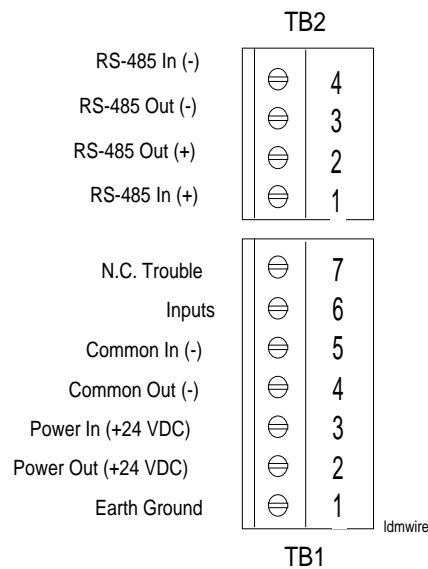
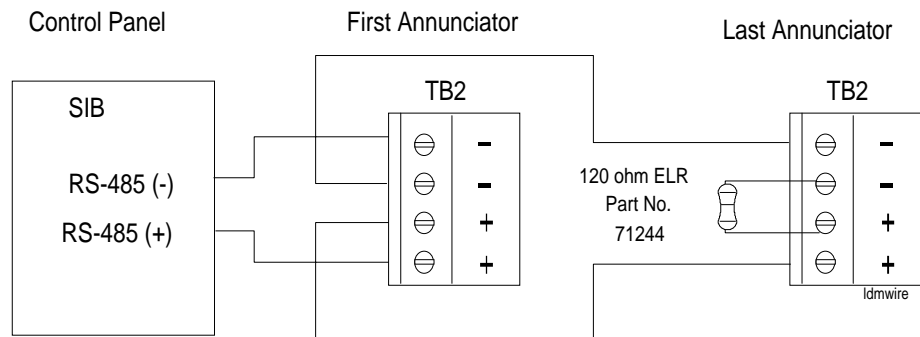

Figure 9: LDM Terminal Wiring
Figure 10: Wiring Multiple Annunciators (4000-Foot Maximum Run at 18 AWG)
Figure 9 shows the LDM annunciator trunk and power terminations. Figure 10 illustrates how to wire multiple LDM modules. When wiring the LDM module, follow these guidelines:
- Leave the 120-ohm ELR resistor installed across the RS-485 Out terminals at the last annunciator on the circuit. (See Figure 10). Remove this resistor from all other annunciators.